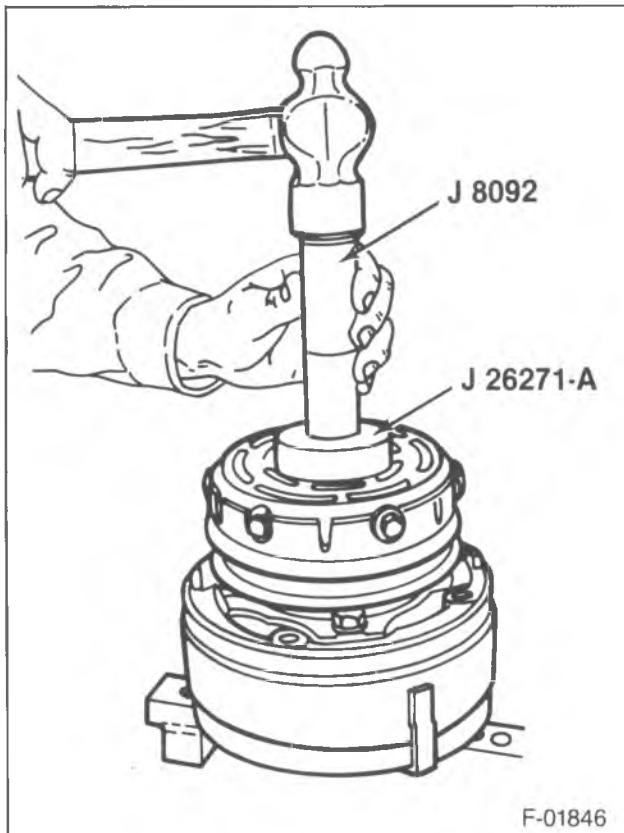

Figure 13—Installing the Rotor and Bearing Assembly — V-Groove Type
- Rotor (6) and bearing (5) assembly to the compressor with J 8092 (figure 13).
- Retainer ring (4) with J 6083.
- Pulley rim mounting screws (10) and washers (9).